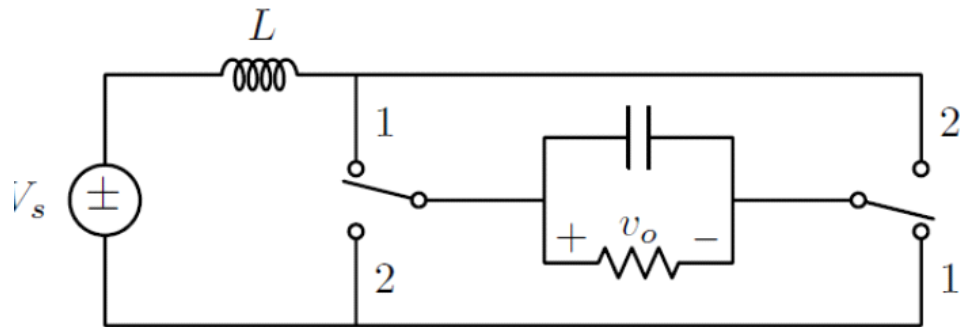

Fig. 1
1) The DC/DC converter shown in Fig. 1 operates in CCM. The switches are in position 1 for $0 < t < DT_s$ and in position 2 for $DT_s < t < T_s$. Assume that all components are ideal.
e) Show that the converter of Fig. 1 can be drawn in the electrically identical form shown in Fig. 2. Sketch the waveforms $v_1(t)$ and $i_2(t)$. Use the circuit averaging method to derive a large-signal averaged model for this converter.